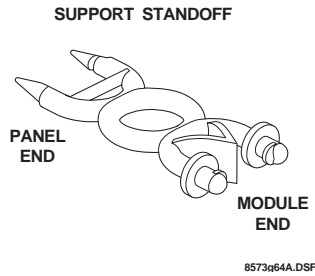
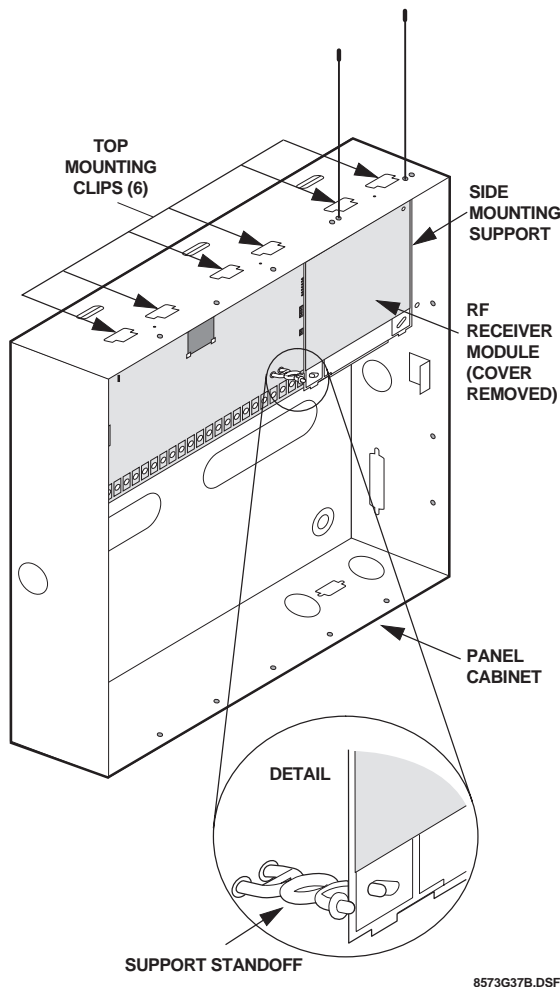

Figure 4. Support Standoff
Figure 5. Mounting the module in a Concord Cabinet
3. Insert a support standoff shown in Figure 4 (supplied with panel) into the panel circuit board location shown in Figure 5.
4. Slide the module back-plate into the two top mounting clips located on the top-right side of the cabinet and onto the right-side support on the cabinet (see Figure 5).
5. Push the lower-left corner of the module onto the support standoff (see detail in Figure 5).